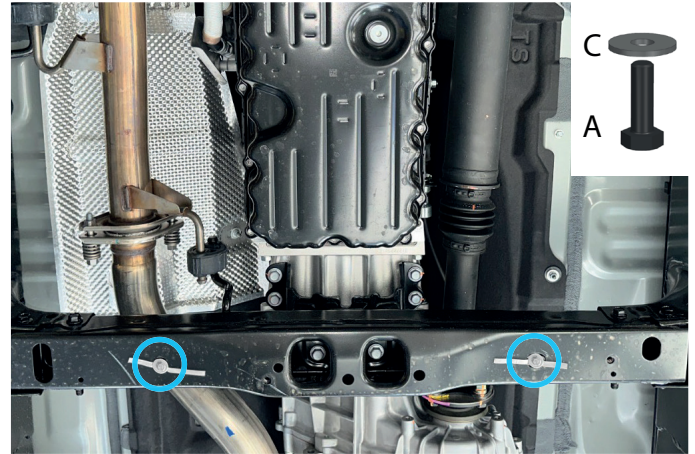

Fig. 6
6. Insert M8x25 bolts (item A) with M8 washers (item C) as shown in fig.6. At this point only thread in bolt 2-3 turns